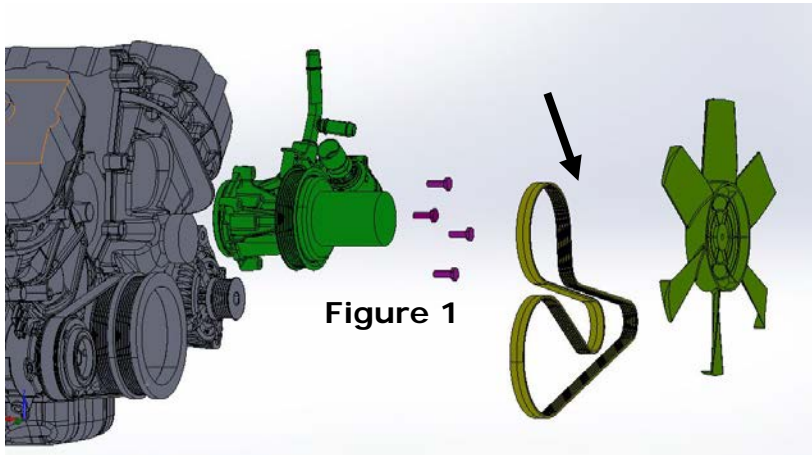

Figure 1: Coyote Kit Components.
2. Loosen appropriate hardware and remove belt. Disconnect heater return hose and remove the Mechanical Water Pump from the Engine Block. (refer Figure 1) Replacement belt will be required.